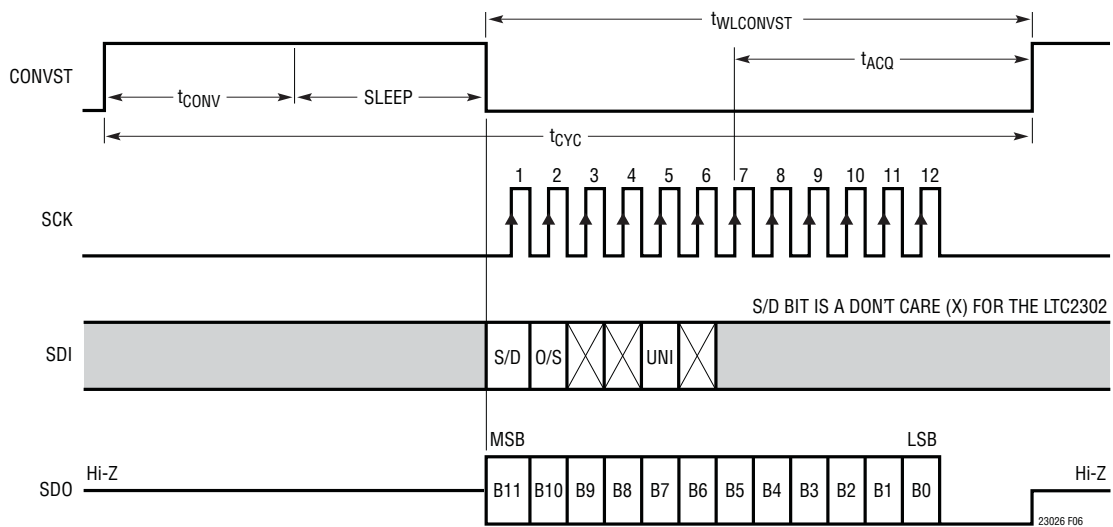

Figure 6. LTC2302/LTC2306 Timing with a Long CONVST Pulse
The software compatible LTC2302/LTC2306/LTC2308 family features a 6-bit  $D_{IN}$  word to program various modes of operation. Don't care bits (X) are ignored. The SDI data bits are loaded on the rising edge of SCK, with the S/D bit loaded on the first rising edge (see Figure 6 in the Timing
The start of a conversion is triggered by the rising edge of CONVST. Once initiated, a new conversion cannot be restarted until the current conversion is complete. Figures 6 and 7 show the timing diagrams for two different examples of CONVST pulses. Example 1 (Figure 6) shows CONVST staying HIGH after the conversion ends. If CONVST is high after the  $t_{\text{CONV}}$  period, the LTC2302/LTC2306 enter sleep mode (see Sleep Mode for more details).